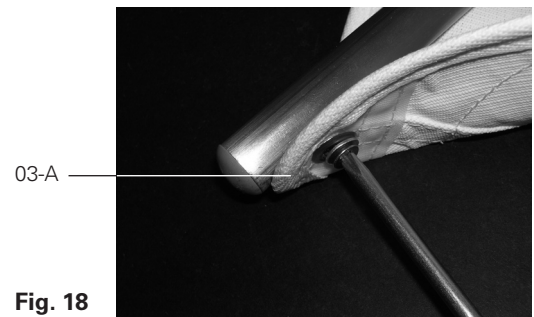

Fig. 18
- B02 Screw canvas point [03-A] to the mast [01] using the screw [21] and the washer [22] (see Fig. 18).